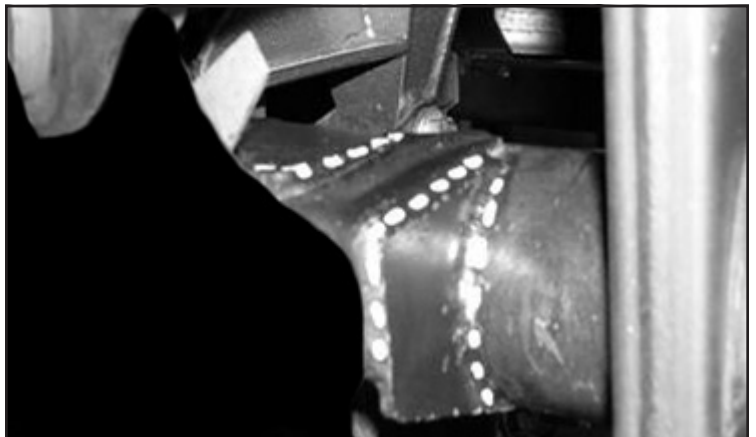

FIGURE 9 - STEP 8
8. Locate FT50344 gusset; position it onto the axle and the factory trac bar mount as shown in photo. Weld the gusset on the three outward / top sides. **SEE FIGURE 9**